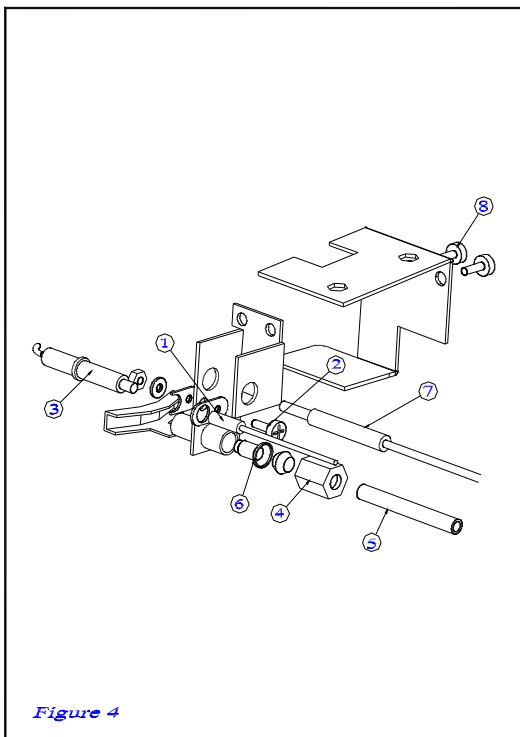

Figure 4
3. At the Pilot Burner, unscrew two screws (figure 4, item 8) and remove the pilot protection bracket inside the grilling compartment.
4. Unscrew nut (figure 4, item 4) and withdraw the thermocouple from the pilot burner assembly.
CLEAN/REPLACE (figure 4)
REMOVE/REPLACE (figure 4)